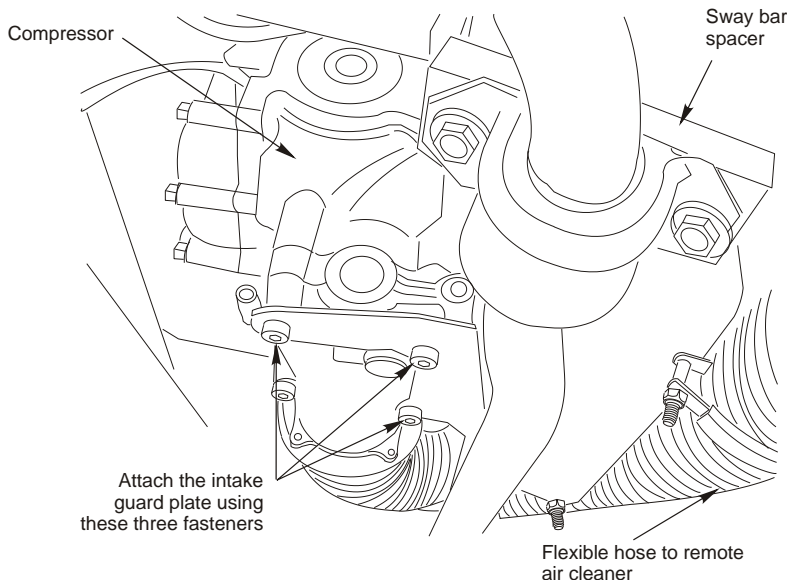

Figure 3.13
- ☐ Remove three bolts from the inlet valve on the compressor and install the intake guard plate using the three bolts (Figure 3.13). Position it so that the short end of the hose will attach to the intake and the long end to the remote filter. Tighten the inlet valve bolts and secure the hoses with the supplied clamps.
- ☐ Insert the supplied spacers between the frame and the sway bar mount and fasten the sway bar in place with the supplied flange head bolts (Figure 3.13).